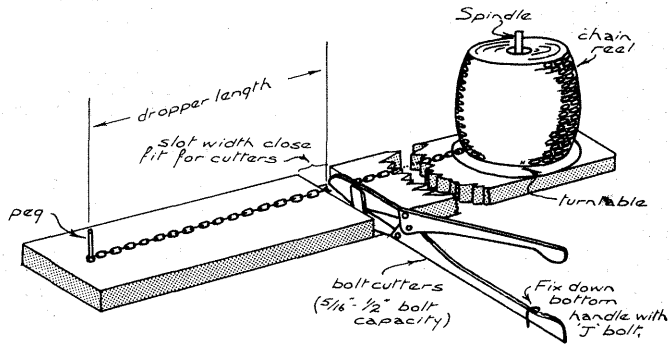

Fig.8
**Chain droppers** can be readily cut to size from the roll by a method shown in Fig. 8.